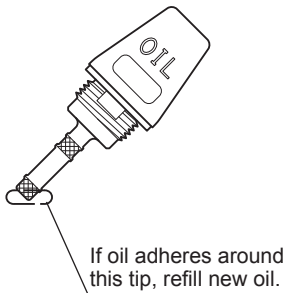
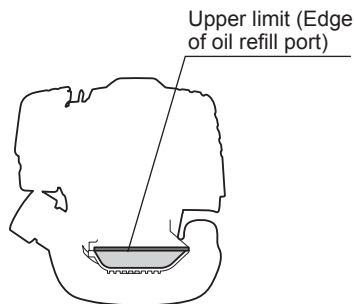

Fig. 1
Fig. 2
- While keeping the engine level, remove the oil gauge, and confirm that the oil is filled within the upper and lower limit marks. When the oil is in short in such a way that the oil gauge touches the oil only by its tip, in particular with the oil gauge remaining inserted in the crankcase without screwing-in (Fig. 1), refill new oil near the port (Fig. 2).
(1) Keep the engine level, and detach the oil gauge.
(2) Fill oil up to the edge of the oil refill port. (Refer to Fig. 2.)